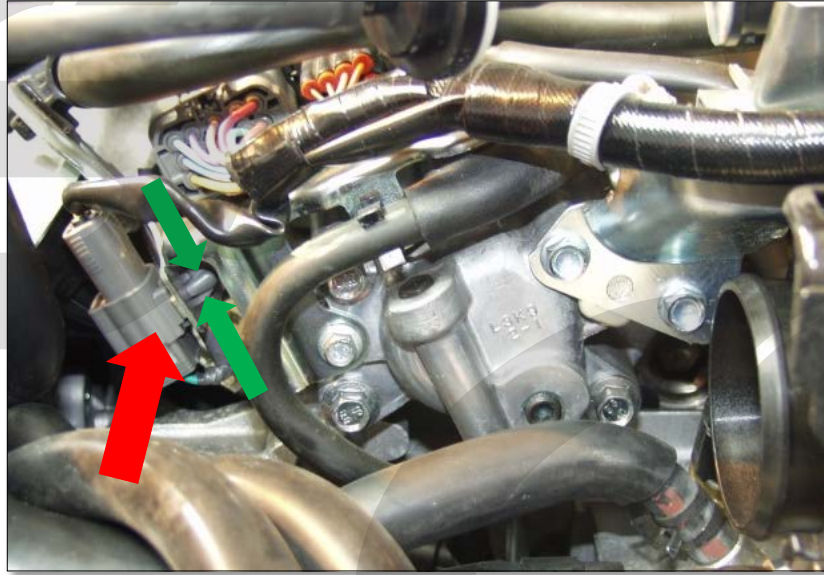

Figure 2a
- a) **Disconnect the swirl vane wires** (red arrow in Figure 2a) Using needle nose pliers, remove the connector from the bracket by squeezing in the direction of the green arrows in Figure 2a